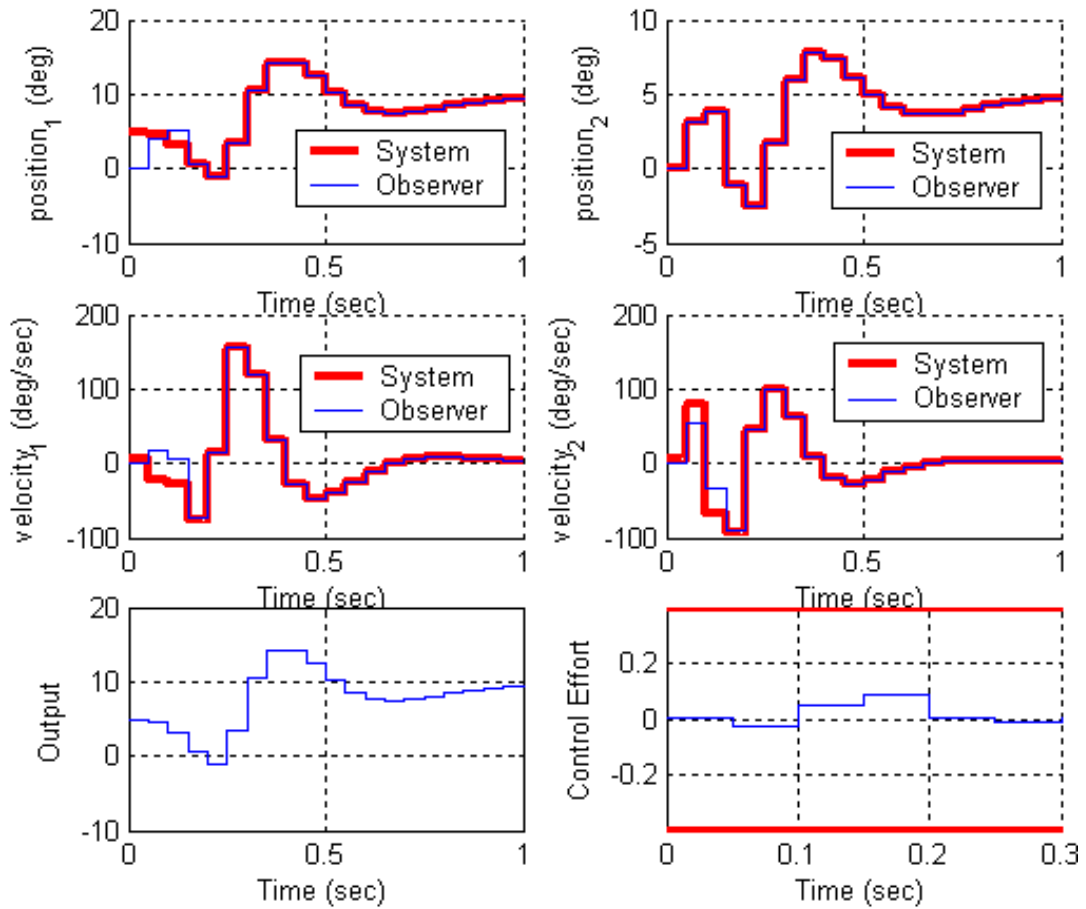

Figure 7. Results for problem 3b.
b) Assume the only known state is the position of the second disk, and the output is the position of the first disk. Use a sampling interval of 0.05 seconds, assume all the state feedback poles are at 0.5, and the observer poles are at [0.01 0.015 0.02 0.025]. Also assume the system initially starts with disk 2 at zero degrees, disk 1 at 5 degrees, and both disks with an initial velocity of 5 degrees/sec (be careful of units here! The model works in radians.). The initial estimate of the delayed input signal is zero. The initial estimates of the observer are zero. For a 10 degree step input you should get the graph shown in Figure 7. Turn in your plot.